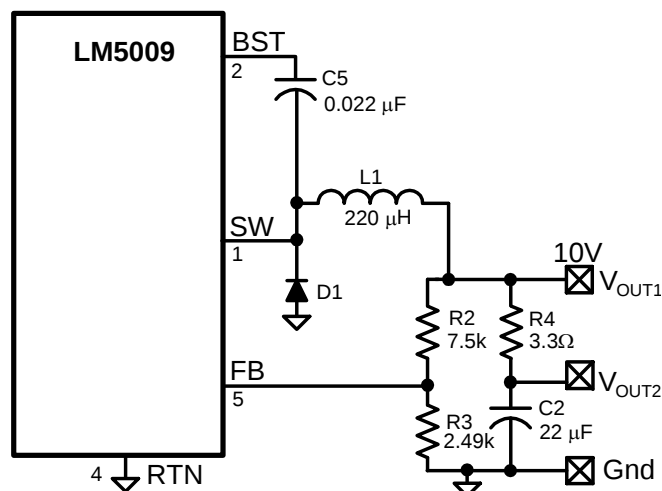

Figure 4. Minimum Cost Configuration
C) Minimum Cost Configuration: This configuration is the same as option B above, but without C6. Since 25 mVp-p are required at the FB pin, R4 is chosen to generate 100 mvp-p at V_{OUT1} , knowing that the minimum ripple current in this circuit is 32 mAp-p at minimum V_{IN} . To allow for tolerances, 3.3 Ω is used for R4. The resulting ripple at V_{OUT1} ranges from ≈ 105 mVp-p to ≈ 580 mVp-p over the input voltage range. If the application can accept this ripple level, this is the most economical solution. The circuit is shown in Figure 4.